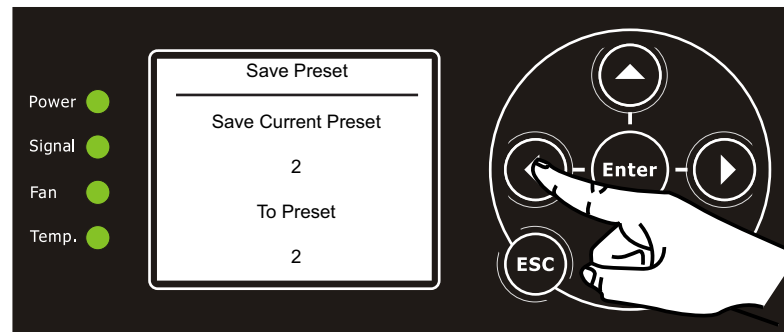

Figure 17: Save Preset Screen
- Step 7. A screen will appear (**Figure 17**) and ask to save preset to its current or new location.